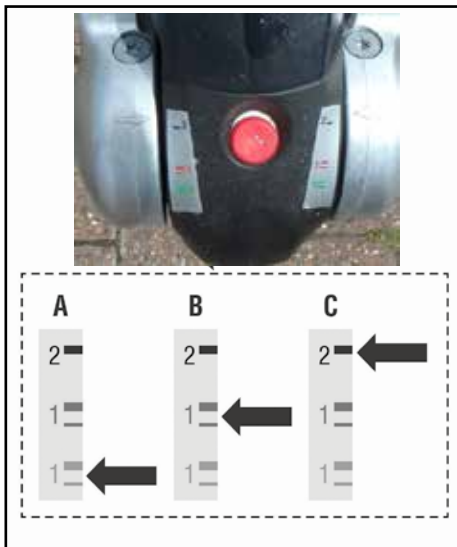

FIG. 5.
2. Push the stabiliser lever (fig.5/item 1) down until resistance is felt (i.e. the friction pads are in contact with the ball but not yet under pressure).
- 3. Check the position of the arrowhead on the arm of the stabiliser. If it lines up with the two green lines then the friction pads are still as new (Fig.5/A)
When the stabiliser lever is correctly applied, the arrowhead should link up with the black line marked 2 (Fig 5/C).